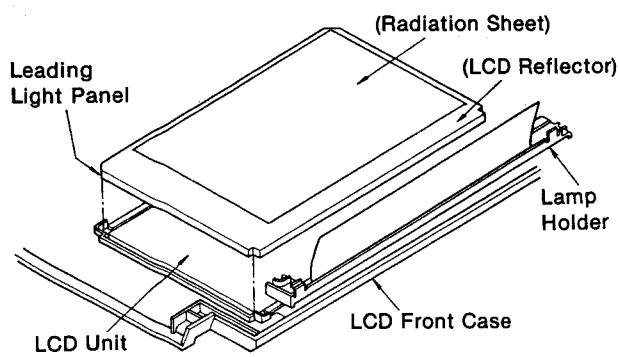

Figure 37
- (5) Install the lamp holder and leading light panel on the LCD unit as shown in Figure 37.